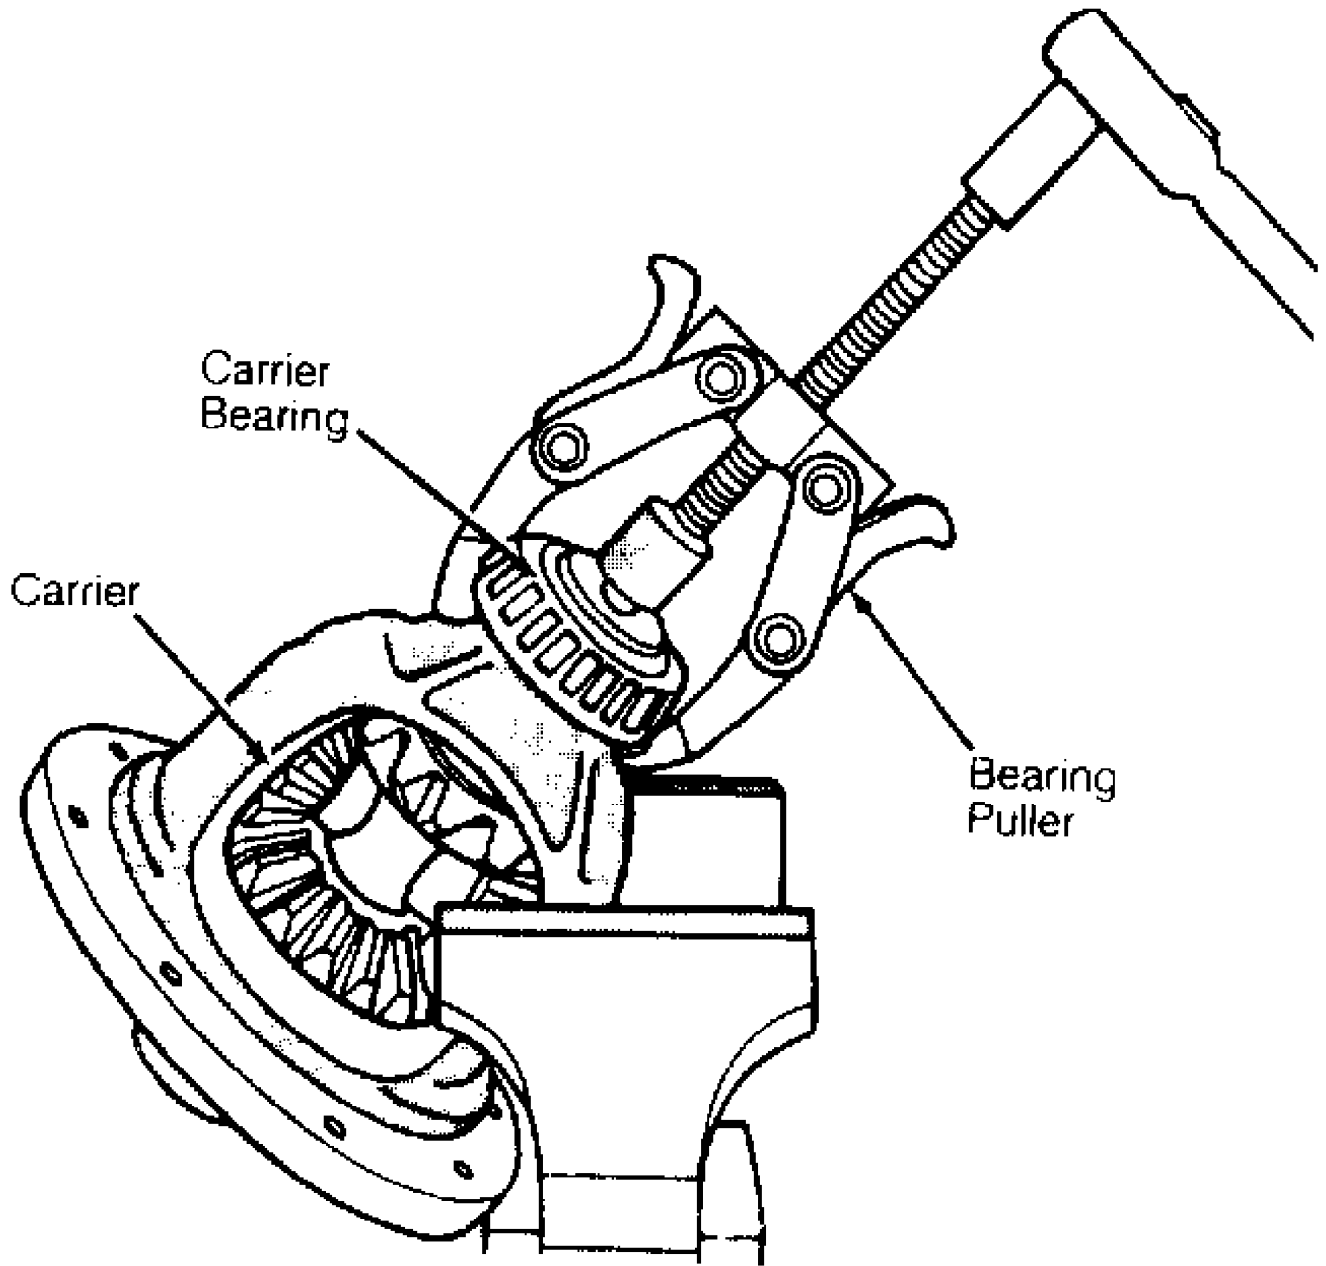

Fig. 6: Removing Drive Axle Carrier Bearings
2) Install carrier pinion gears and thrust washers into carrier. Using Bearing Puller (J-22888) and Thrust Pad (J-22888-9), remove carrier bearings. See Fig. 6. Note if shims are used between carrier bearing and carrier.